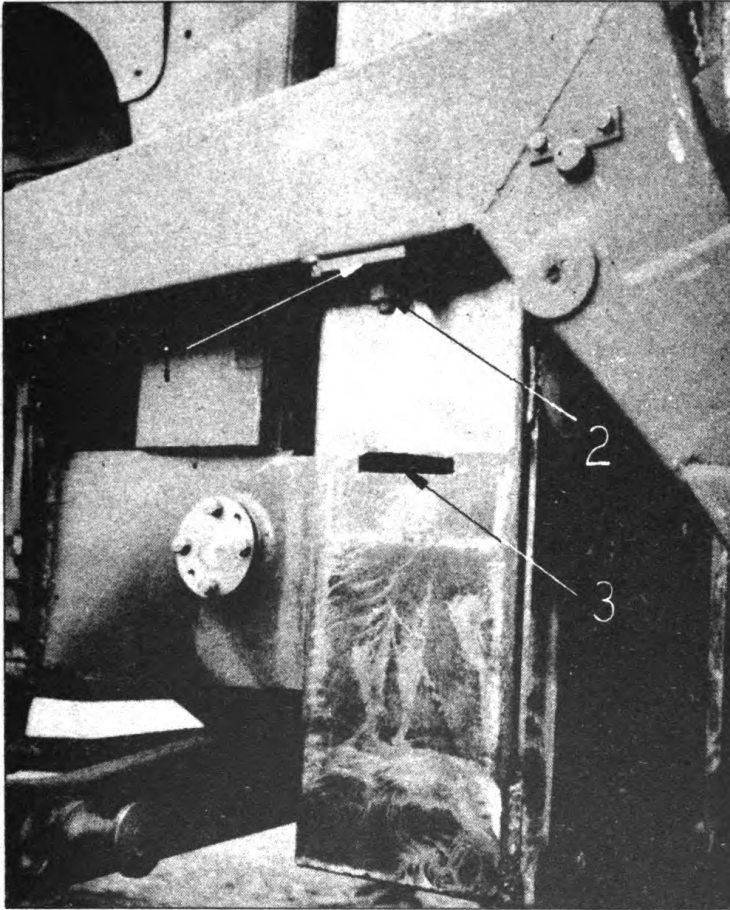

Fig. 13
2. Loosen the nuts on the bottom of the boom arms and slide the travel locks into the slots. (See Fig. 13 page 21.)